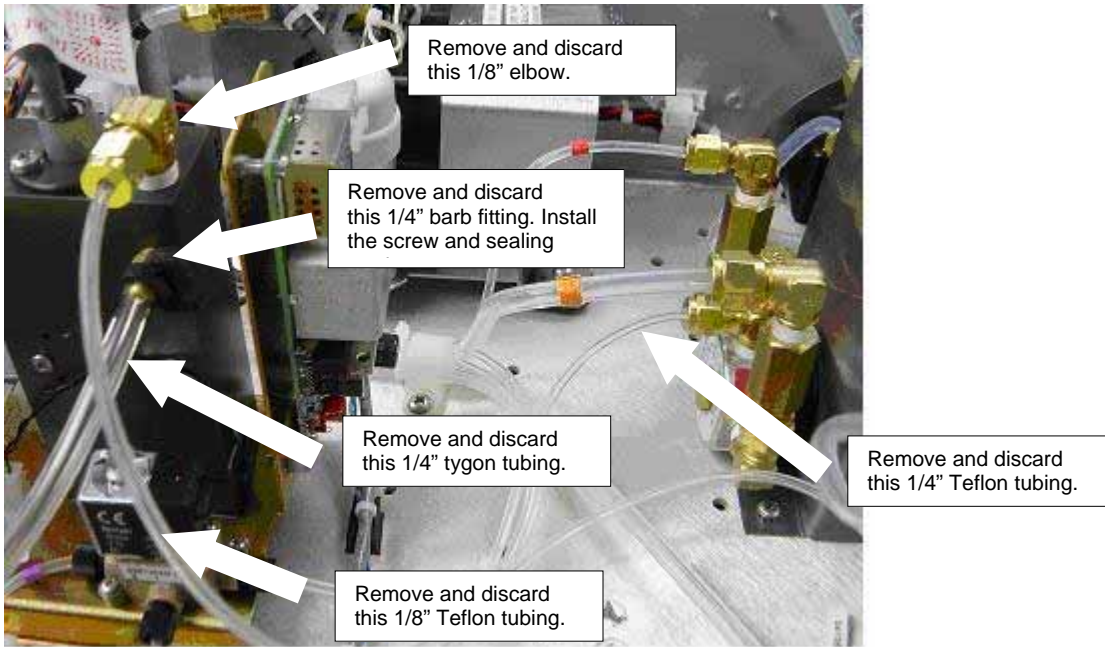

Figure 2
4. Disconnect and discard the 1/4" tygon tubing that leads from the pressure transducer to the 1/4" brass barb fitting on the O₃ generator. Replace the brass barb fitting with the #10-32x3/8 screw (SN 18) and sealing washer (HW 149) from the kit. See Figures 2 and 3.
6. Remove and discard the 1/8" brass elbow from the top of the ozone generator together with the 1/8" Teflon tubing that leads to the brass tee on the regulator assembly. See Figure 2.